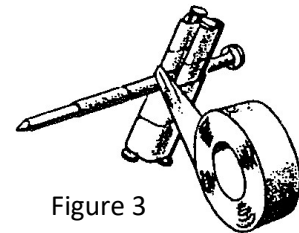

Figure 3
- ✎ Center a set on each side of the shaft. Place the sets about 1" from the head of the shaft nail. Wrap them together with two layers of tape from tip to tip as shown in *Figure 3*.